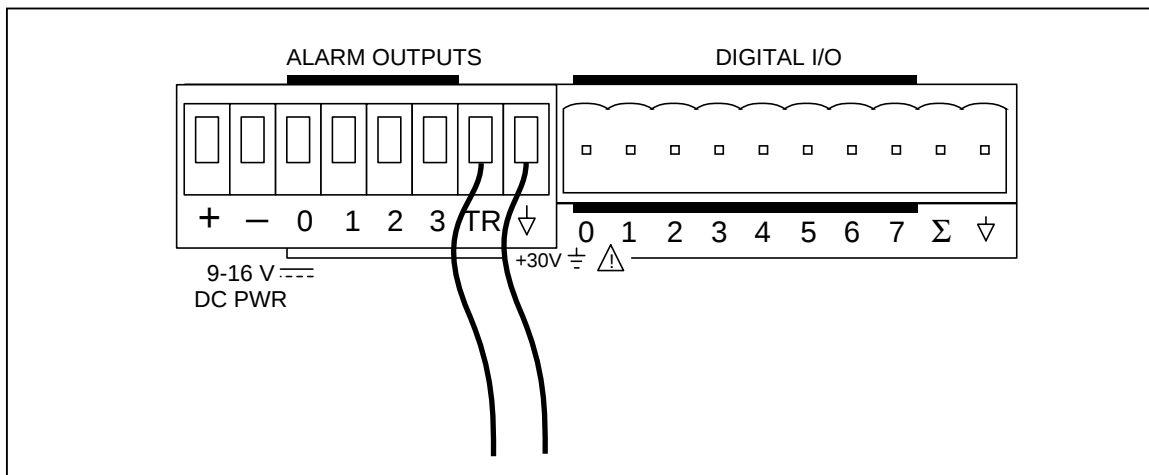

Figure 4-4. External Trigger Test
2. Remove the eight-terminal Alarm Output connector from the rear of Hydra and all external connections to it. Connect short wires (to be used as test leads) to the $\frac{1}{2}$ and TR terminals. Leave other ends of wires unconnected at this time. Reinstall the connector. Refer to Figure 4-4.